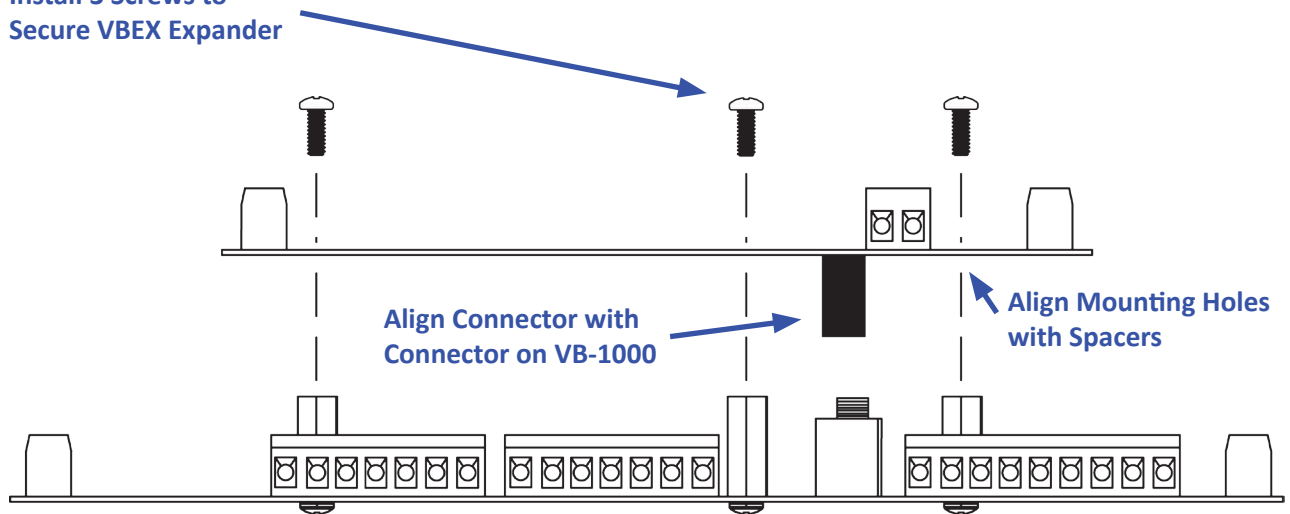

Figure 1.2 - Mounting the VBEX-TCDOT
3. Carefully aligning the VBEX-TCDOT with the installed spacers, gently plug the VBEX-TCDOT into the EXP1 connector on the VB-1000. Ensure proper alignment on EXP1. When installed correctly, all the EXP1 pins will be plugged into the VBEX-TCDOT and the VBEX-TCDOT will be placed against the spacers and the mounting holes will align with the spacers correctly. Refer to Figure 1.2.